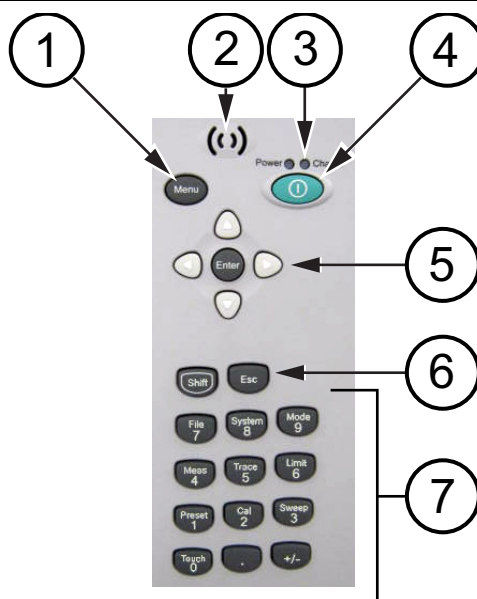

Figure 2-4. Front Panel Layout
(item 1 in Figure 2-4)
(item 3 in Figure 2-4)
(item 4 in Figure 2-4)
(item 5 in Figure 2-4)
(item 6 in Figure 2-4)
(item 7 in Figure 2-4)